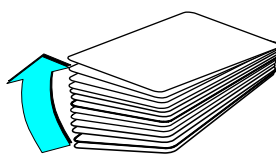

Figure 3-6: Fan cards
- 4 Fan cards to separate the edges of cards (see Figure 3-6).